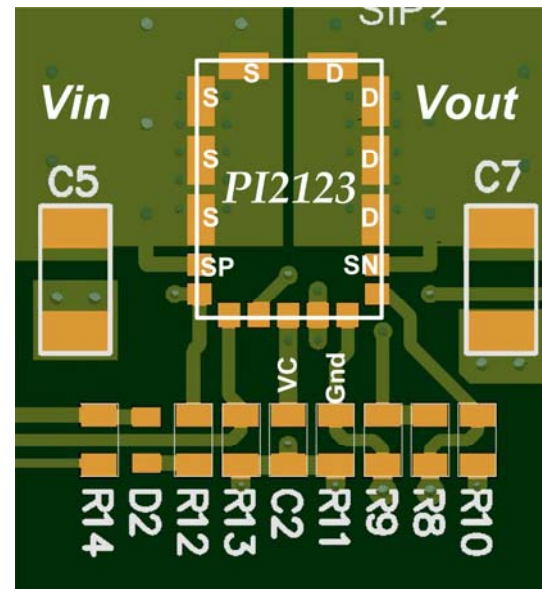

Figure 23: PI2123 layout recommendation
Use the following general guidelines when designing printed circuit boards. An example of the typical land pattern for the PI2123 is shown in Figure 23:
- Connect the SP pin to the S pins and connect the SN pin to D pins as shown in figure 23.
- The VC bypass capacitor should be located as close as possible to the VC and GND pins. Place the PI2123 and bypass capacitor on the same layer of the board. The VC pin and C_{VC} (shown as C2 in Figure 23) PCB trace should not contain any vias or connect to the ground plane close to GND pin.
will produce a high voltage across the MOSFET. If it is not possible to connect the power source and S pins with a very short trace or common point, connect a capacitor (shown as C5 in figure 23), recommended value 1 μ F, close to the S pins and return (ground). Also for the same reason use C7 in figure 23 at the output.